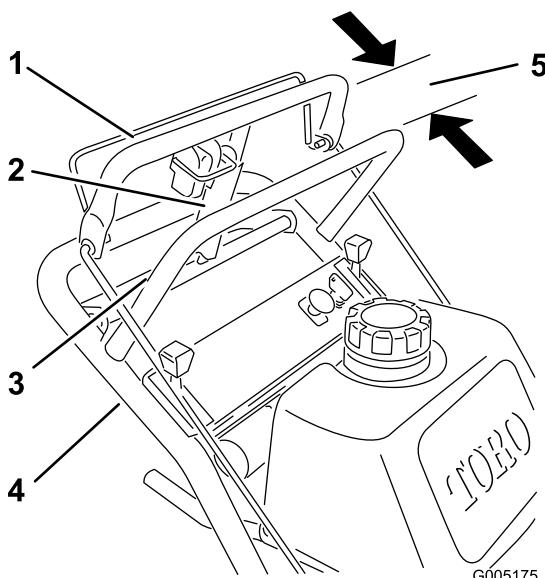

Figure 40
1. Check the gap between upper control bar and fixed bar with wheel drive fully engaged. The gap should be approximately 1 to 1-1/4 inch (25-32 mm) (Figure 40).